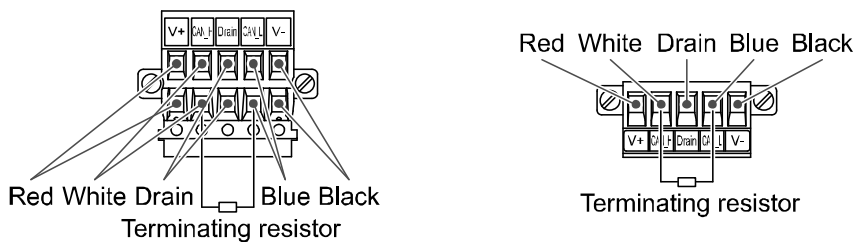

Figure 2
(2) A bus termination is required at both ends of DeviceNet™ bus segment as shown in the Figure 2. The specification of the terminating resistor is 121 Ω ±1%, 1/4 W.